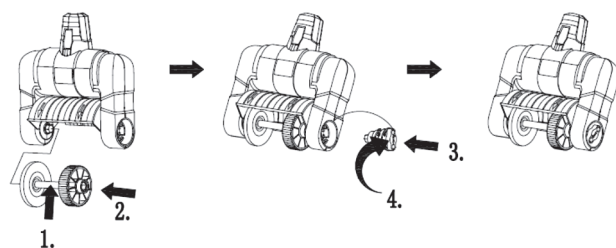

Fig. 4
B. Assemble the roller plastic brush or metal brush. Refer to Fig.4